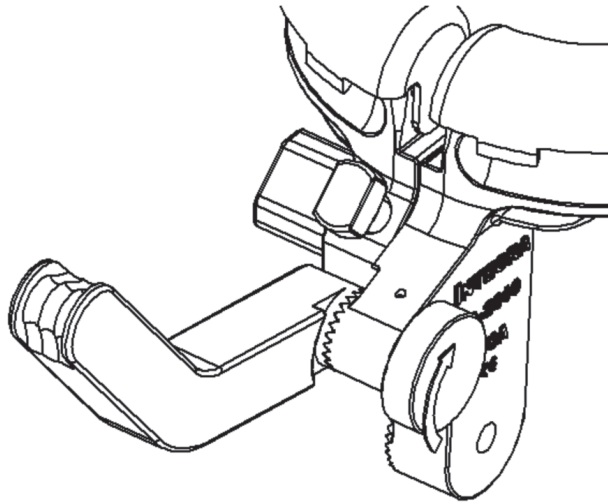

Figure 13
4. Turn the Pulley Rod Knob clockwise until fully tightened (Figure 13).